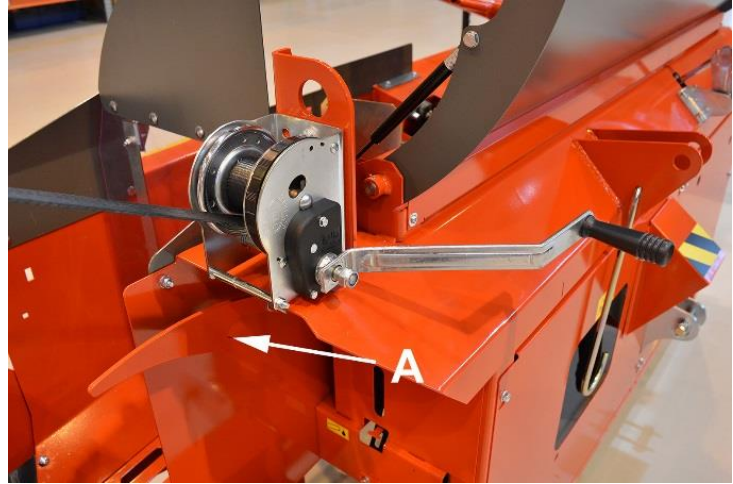
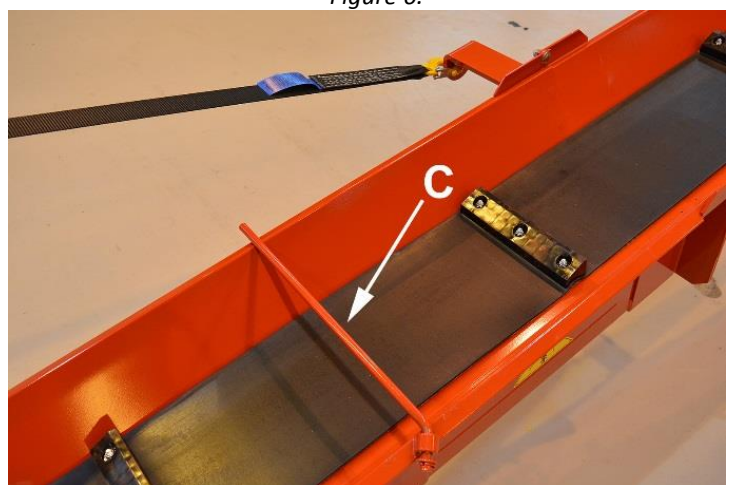

Figure 5.
Figure 7.
3. Keep lock A (Figure 5) open and lower the output conveyor using a winch to its lowest position.
5. Turn support bar C on the output conveyor belt (Figure 7) to the side.
2. Release lock D (Figure 7) and lower the conveyor to the lowest possible position with the winch.
3. Turn support bar C (Figure 7) to a position over the belt, and turn the upper section of the conveyor onto the lower section using handle B (Figure 5).
5. Lift the conveyor with the winch until it locks into the raised position. Ensure that lock A (Figure 5) settles properly into place.